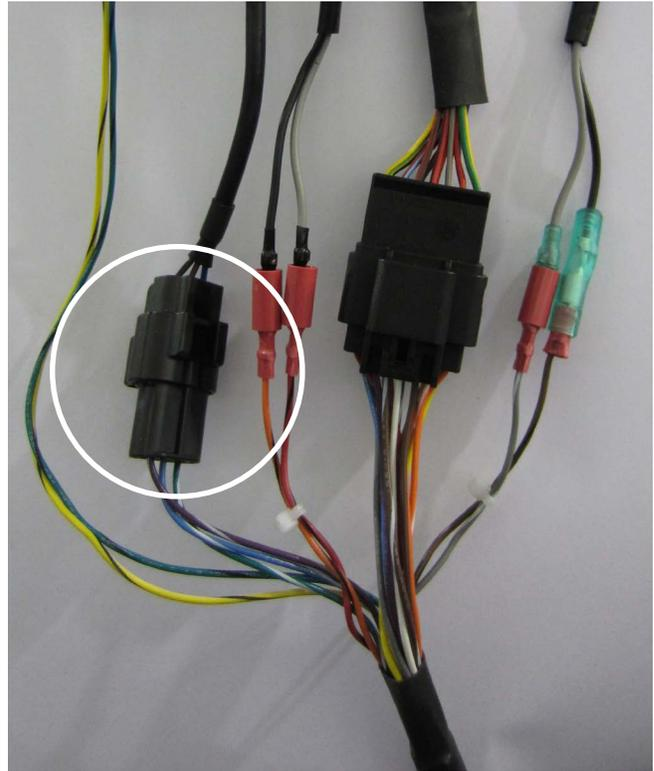

Figure 114: Throttle Harness
3. Disconnect the wire harness. See Figure 114.
6. Connect the wire harness. See **Figure 114**.